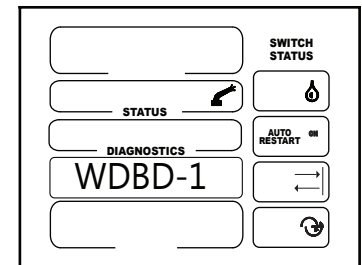

Figure 15-2
1. The screen illustrated in figure 15-2 signifies that wide boundary sector 1 is not programmed. If the voltage area is empty then no settings have been set for the indicated wide boundary sector.